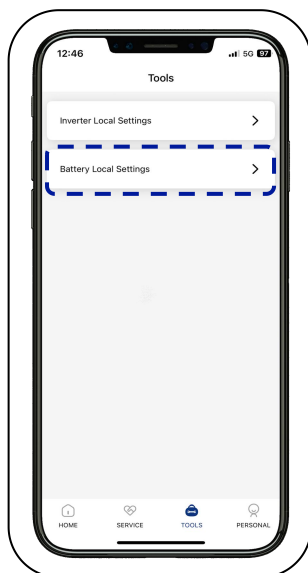

Figure 43
- Then enter the Battery Setting page, as shown in Fig.43, and you can upgrade the battery online and select the inverter protocol, etc.